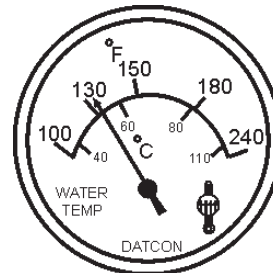

Figure 49. Coolant Temperature Gauge
15. The coolant temperature gauge (Figure 49) will indicate the coolant temperature. Under normal operating conditions the coolant temperature is between 165 and 203 degrees Fahrenheit (74 ~ 95 degrees Celsius).